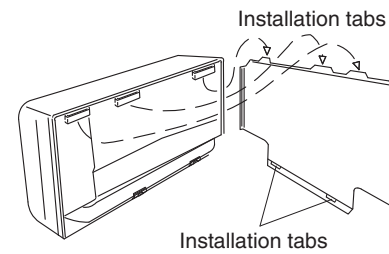

Fig. 3-163
1. When installing the indoor unit, position the indoor unit onto the installation tabs on the upper part of the rear panel. (Fig. 3-163)